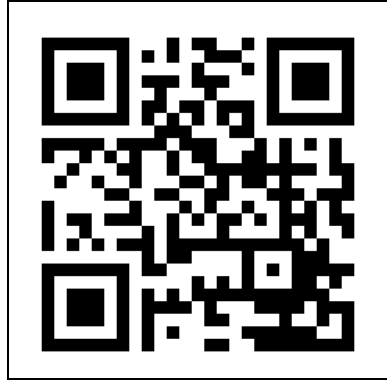

Figure 12
1. Open the Eurom Smart App manual with the QR code (Figure 12) or go to www.eurom.nl/nl/manuals.